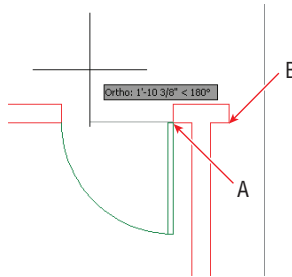

FIGURE 7.12 Inserting a door and rotating it on screen
12. Click point A in the leftmost room, as shown in Figure 7.12. Verify that Ortho mode is on in the status bar; if not, toggle it on. Move the cursor to the left to rotate the door into the proper orientation (see Figure 7.12). Click on the drawing canvas to insert the door.
14. Click point B, as shown in Figure 7.12. The command prompt reads: